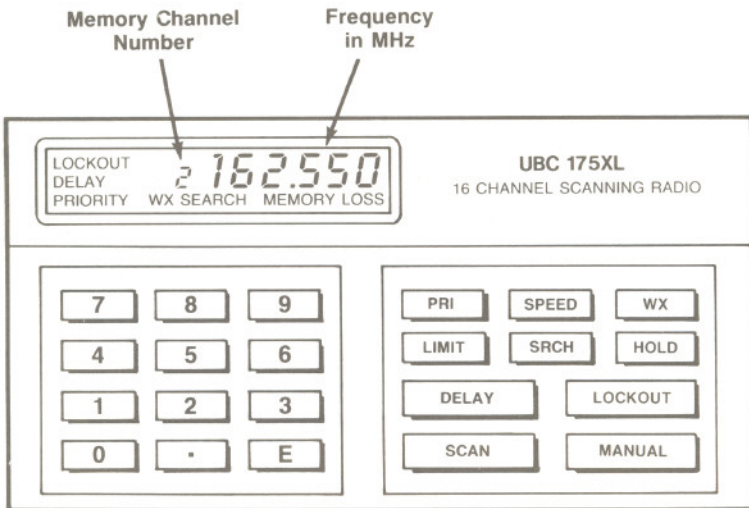

Figure 3
Your Uniden® Bearcat® 175XL has an 8-digit backlit display which indicates the channel and frequency being monitored as well as lockout, delay, priority, weather (WX) search and memory loss (fig. 3). All of the functions of the display will be discussed in detail later in the programming section.